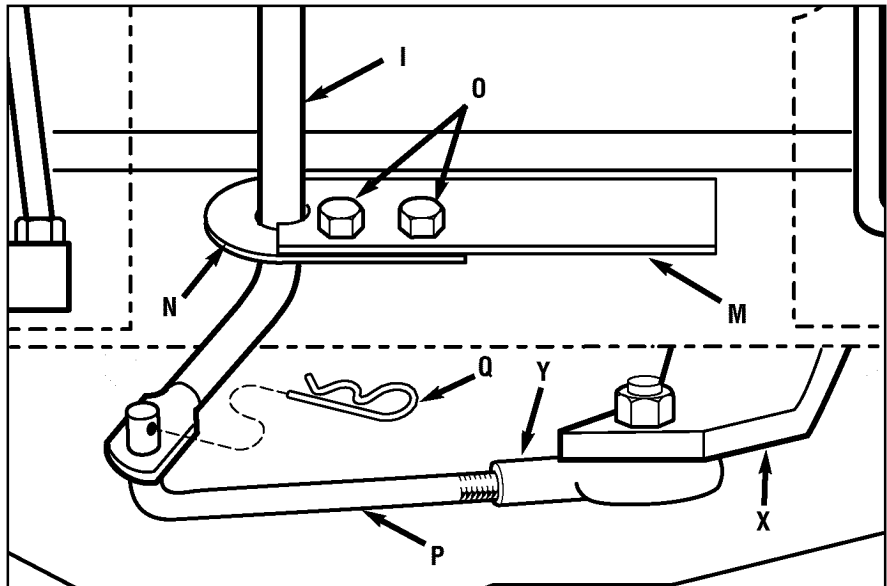

Figure 2-7: Detail – Transmission Neutral Adjustment.
3. Slide spring and washers (J) down onto gear select lever.
4. Insert gear select lever (I) up through nylon bushing (Z) in handlebar console (L). Guide pin (K) on gear select lever into groove in shift quadrant (P).
5. Hold lower part of gear select lever (I, Figure 2-7) against bracket (M). Position retaining plate (N), removed earlier, as shown in Figure 2-7 (plate below bracket). Secure plate with two 1/4"-20 x 1/2" screws (O) and 1/4"-20 locknuts removed earlier.
8. Move shift arm (X, Figure 2-7) from side to side as necessary into each transmission gear detent until transmission is in neutral.
9. When shift arm (X) is in neutral position, rotate shift link (P) toward end of gear select lever rod (I). Adjust length of shift link (P) as necessary to fit into hole in bottom of gear select lever (I).
NOTE: Pin (K) on Gear Select Lever (I) must be held in the neutral position detent on the shift quadrant (see Figure 2-6) while shift link (P, Figure 2-7) is adjusted.
10. Insert hooked end of shift link (P, Figure 2-7) into hole in bottom end of gear select lever (I) and secure with hairpin clip (Q).
12. With unit on level ground, hold down Operator Presence Control lever (W, Figure 2-5) and push unit forward and backward. The wheels should move freely. If not, adjust length of shift link (P, Figure 2-7) as necessary.
13. Put the Gear Select Lever in neutral (N), release all of the control levers and try to push the unit forward and backward. The wheels should not turn. If they do turn, an adjustment is necessary. **DO NOT OPERATE THE UNIT UNTIL THE WHEEL BRAKE MECHANISM HAS BEEN ADJUSTED AND IS WORKING PROPERLY.** See "Wheel Brake Adjustment" in Section 5 "Maintenance."